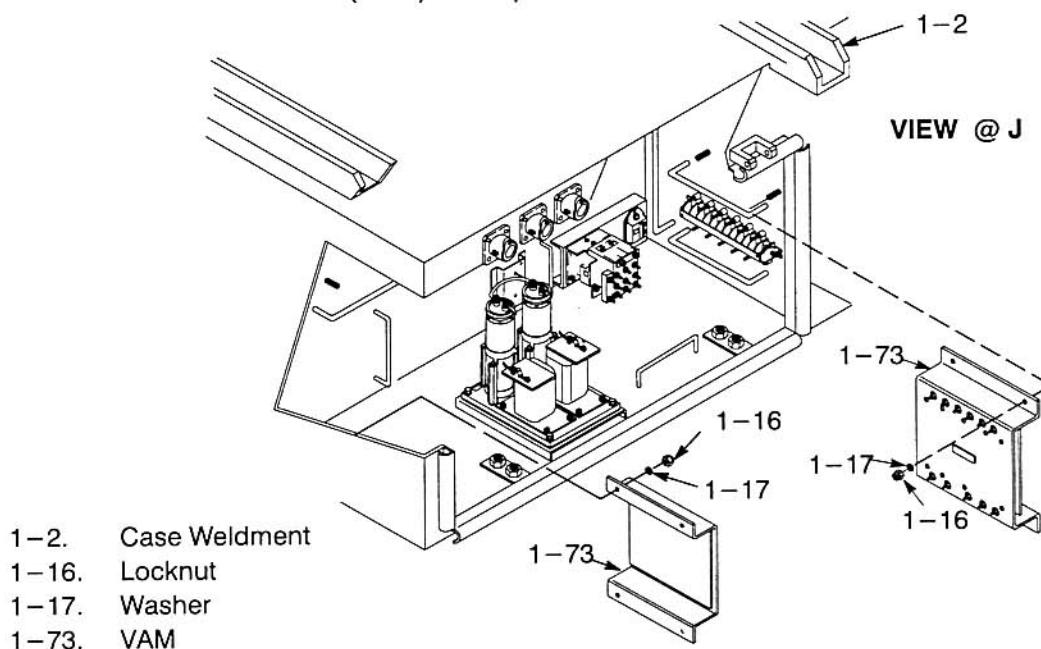

Figure 7–94 Remove/Install Voltage Attenuation Module 17FM560A1
- Remove/install hardware (1–16, 1–17, Figure 7–94) which secures module (1–73) to the case weldment (1–2). Torque hardware to 74–83 in. lbs.